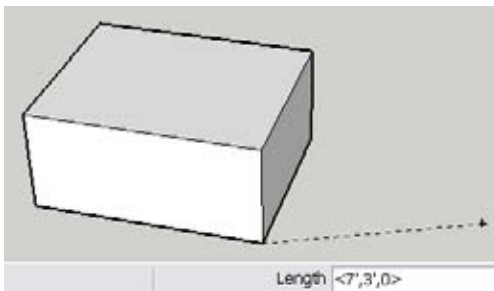

Figure 10-24
3. For the distance to the construction point, use any of the methods you would use for creating a line with exact dimensions (explained in Recipe 10.1). Figure 10-24 shows a relative length of 7 feet in the red direction and 3 feet in the green, entered in the <red,green,blue> format.